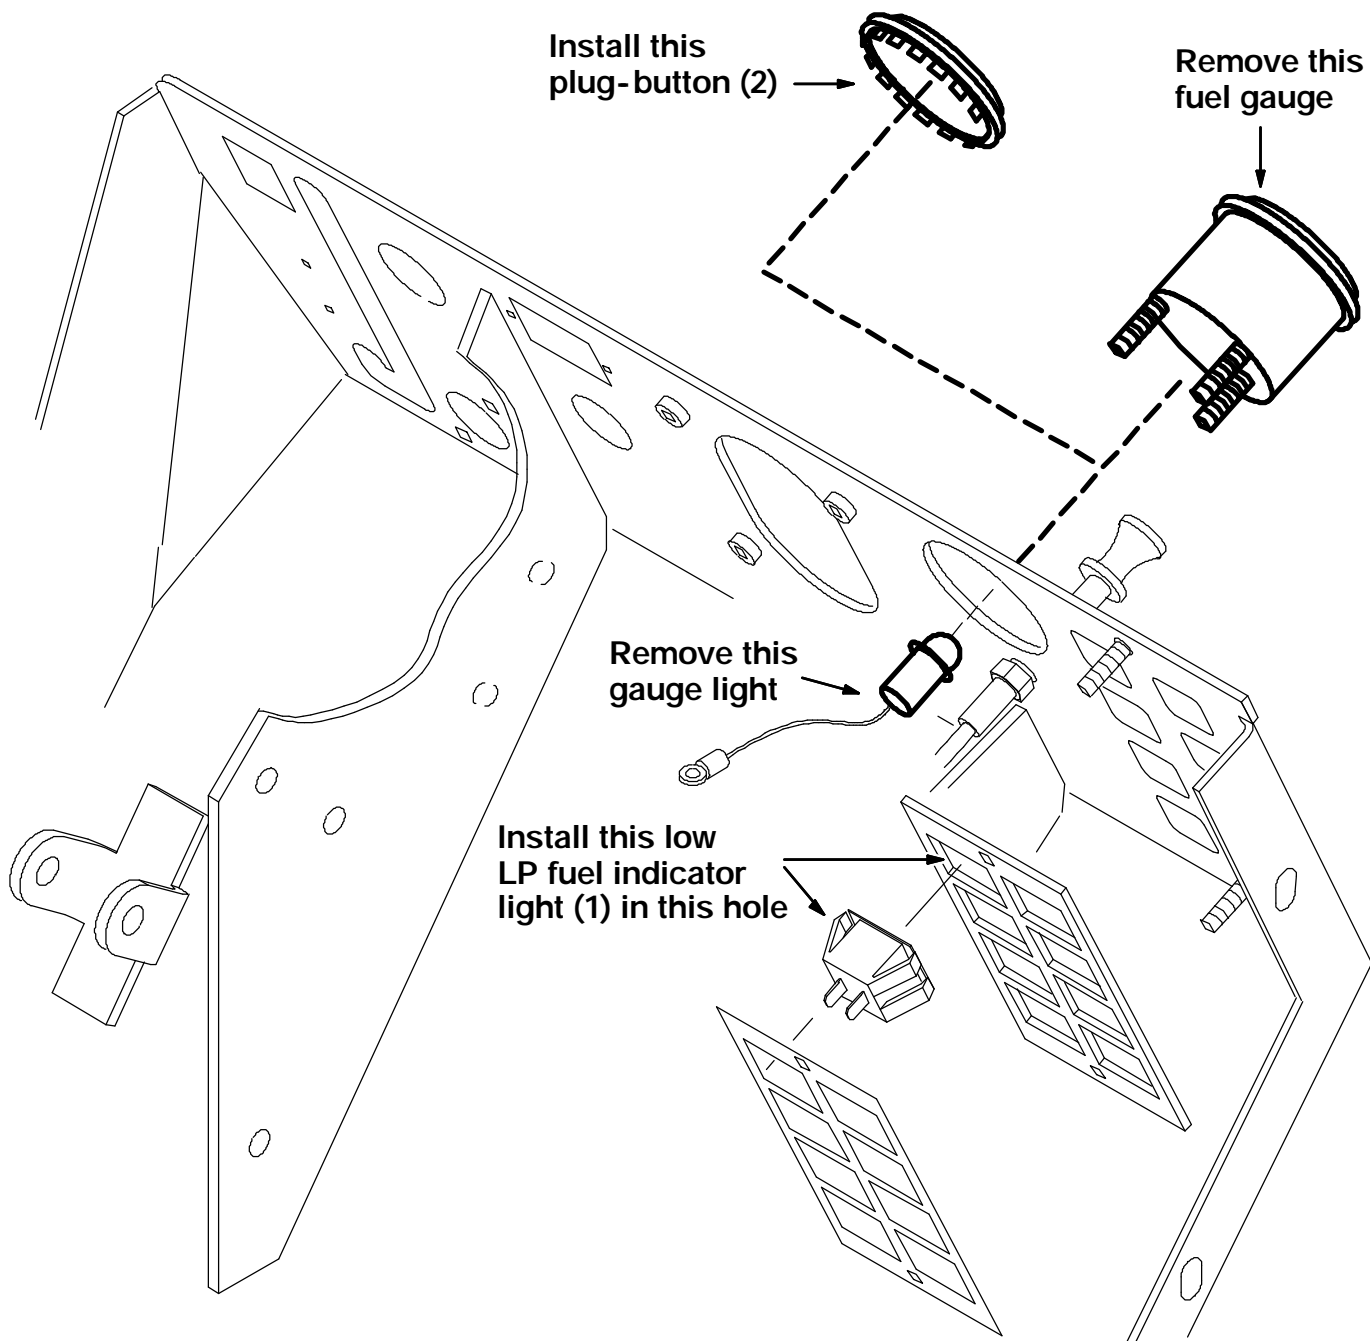

FIG. 2 - Instrument Panel Re-work
(Refer to FIG. 2)
1. Remove the existing fuel gauge and gauge light from the instrument panel. (Refer to FIG. 2)
2. Install the new plug button in place of the removed fuel gauge. (Refer to FIG. 2)
3. Remove the back panel on the indicator light holder. (Refer to FIG. 2)
4. Install the low LP fuel indicator light in the upper left space of the back panel. Reinstall the back panel on the light holder. (Refer to FIG. 2)
5. Connect the wires 34/BRN, 18/B orange and 18C/YEL to the low LP fuel indicator light. (Refer to FIG. 2)